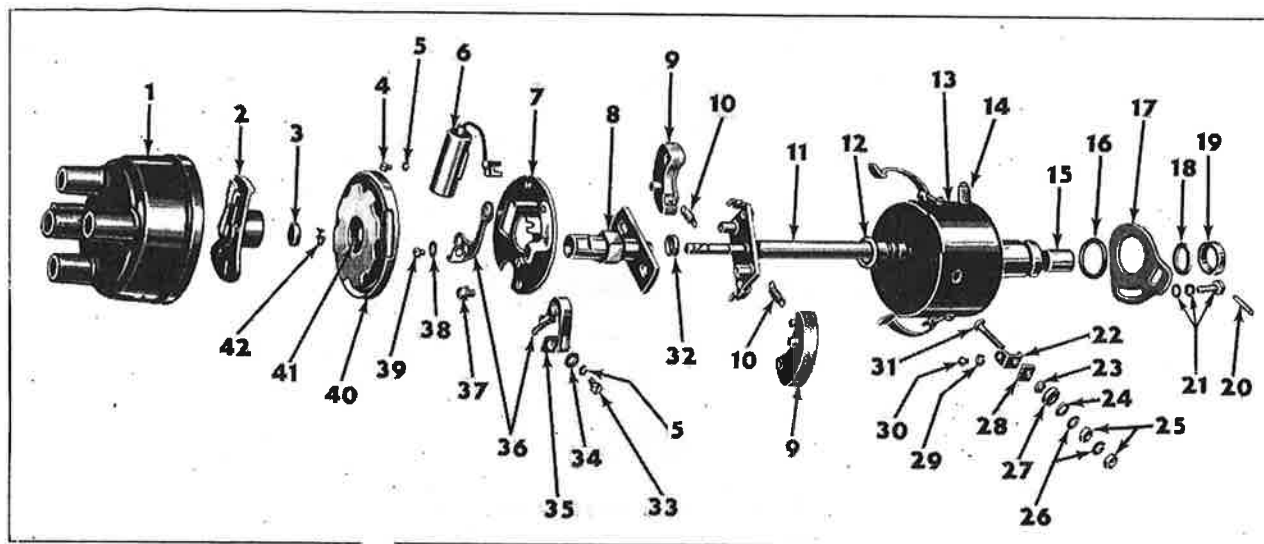

FIG. 148—TYPICAL DISTRIBUTOR
c. The contact gap should be set at .020" [0,508 mm.], measured with a wire gauge. Adjustment of the gap is accomplished by loosening the lock screw (Fig. 148, 39) and turning adjusting eccentric screw (7), until correct gap is secured. Be sure that the fiber block on the breaker arm is resting on the highest point on the cam while the adjustment is being made. Recheck the gap after locking the adjustment.